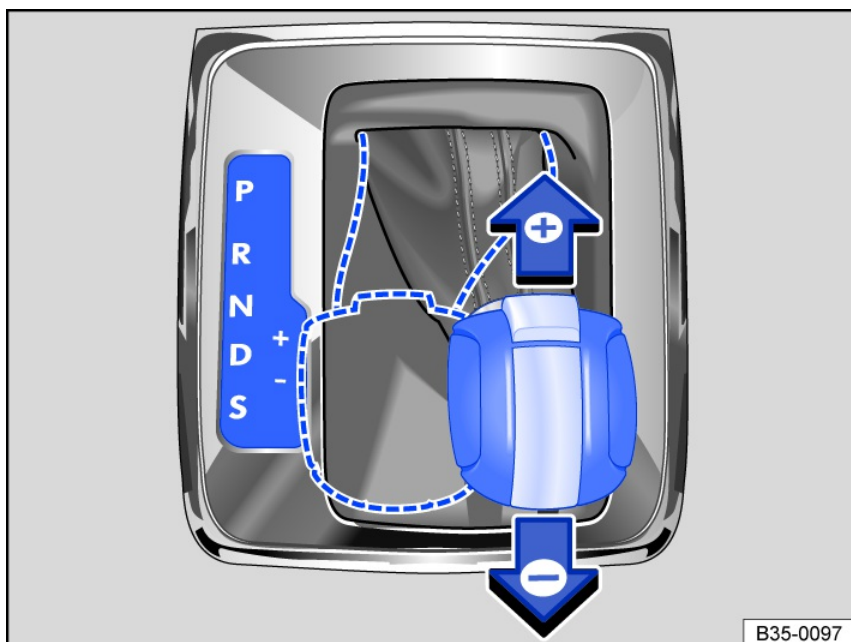

Fig. 91 Selector lever in Tiptronic position.
2. Tap the selector lever forward  or to the rear  to upshift or downshift fig. 91.